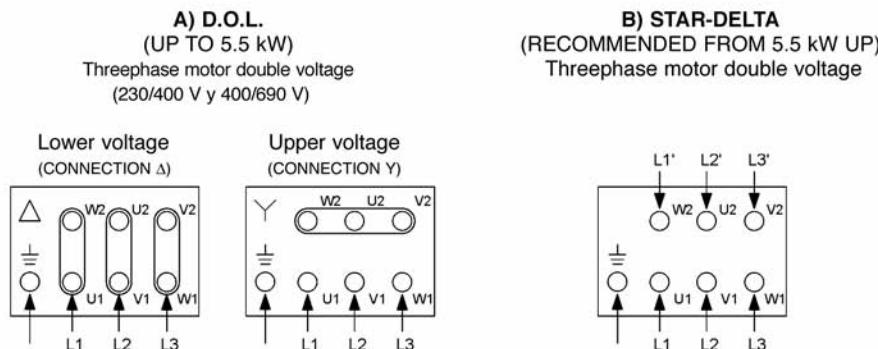

Fig. 2
- Make the connections, depending on case, according to Fig. 2.